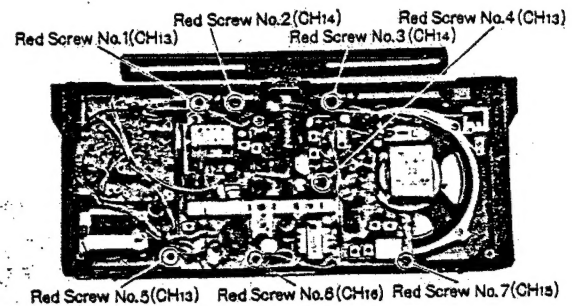

Fig. 2
7. Remove the seven (7) red screws (nos. 1~7) for the chassis, as shown in fig. 2.